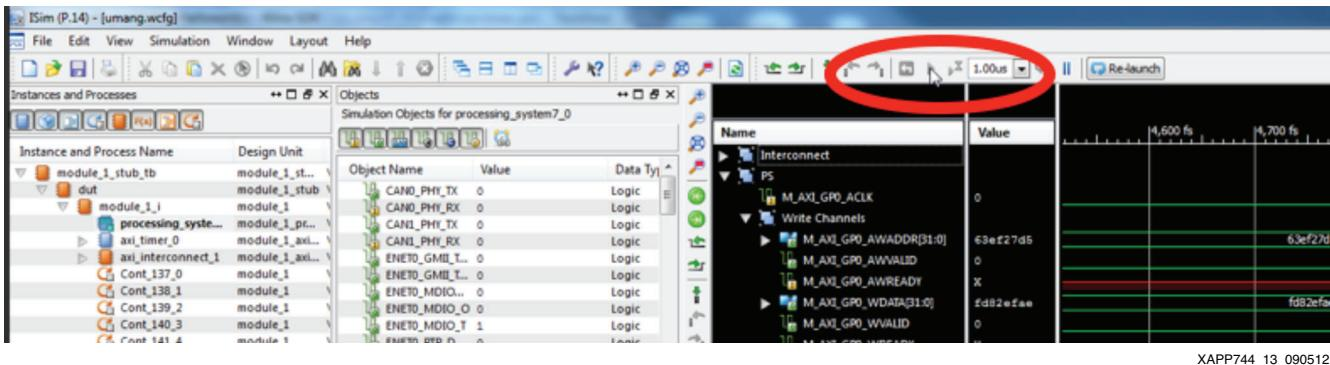

Figure 13: Run All Example
- In the ISim window, run the testbench. Click the **Run All** button as shown in Figure 13.